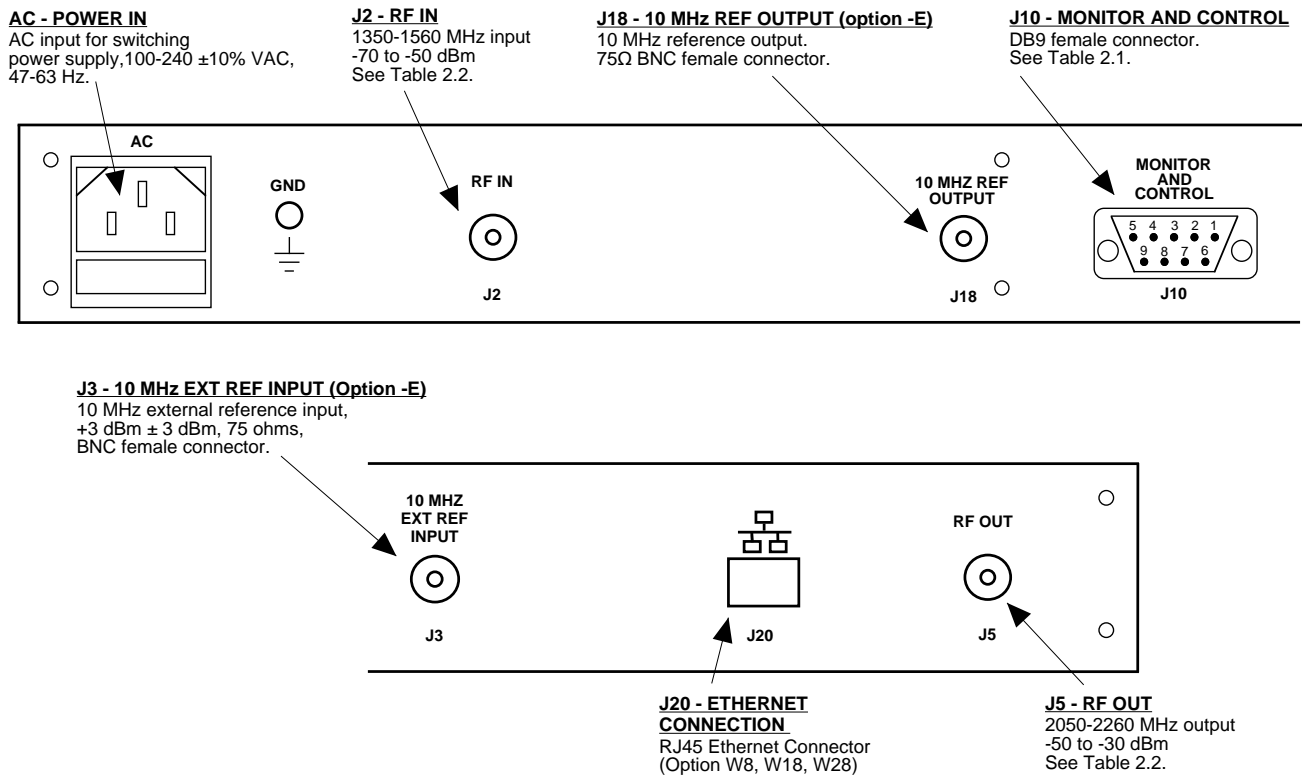

FIGURE 2.2 2083-1320 Rear Panel I/Os
2.2 Rear Panel Input/Output Signals - Figure 2.2 shows the input and output connectors on the rear panel.
1. Connect a -70 dBm to -50 dBm signal to RF IN, J2 (Figure 2.2)